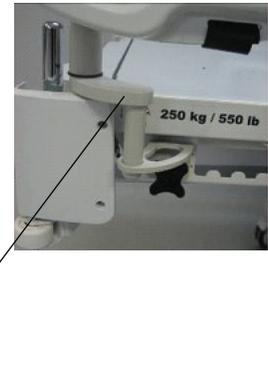

Figure 89: Installing the tray support
4. Install the tray support pole into the bracket (F) and into the socket at the head end or foot end of the product (Figure 89 on page 97).